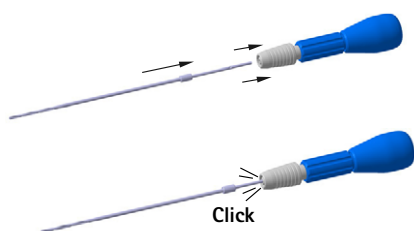

Fig. 3 Assembling the drill
- ▶ Insert drill in the drill handle (FJ839R), see Fig. 3.